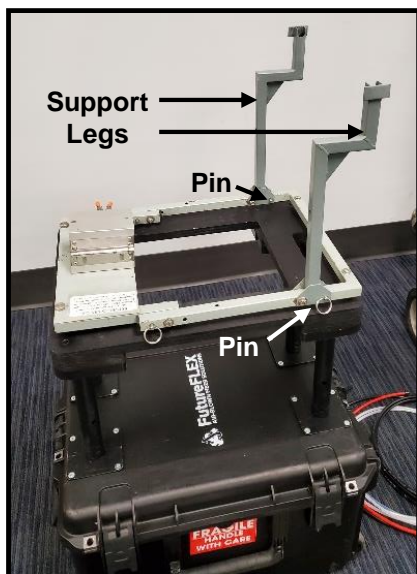

Figure 11
8.1 Raise Payoff Stand fiber reel support legs to vertical position and insert quick-release pins (provided on Payoff Stand) to lock legs in place. See Fig. 11.